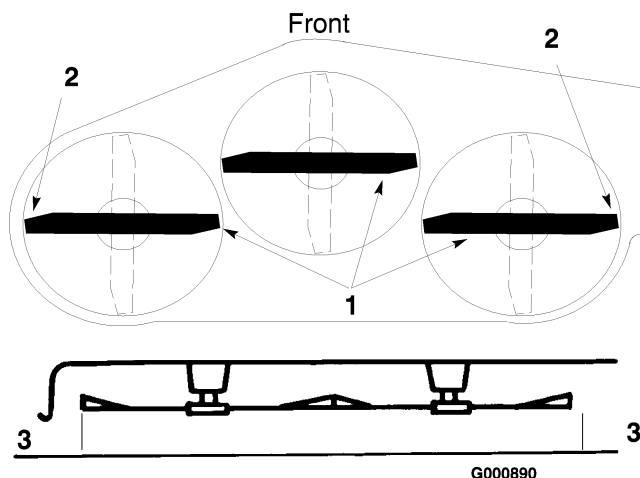

Figure 43
4. Carefully rotate the blade(s) from side to side (Figure 43). Measure between the outside cutting edges and the flat surface (Figure 43). If both measurements are not within 3/16 inch (4.75 mm), an adjustment is required; refer to steps 5 and 6.